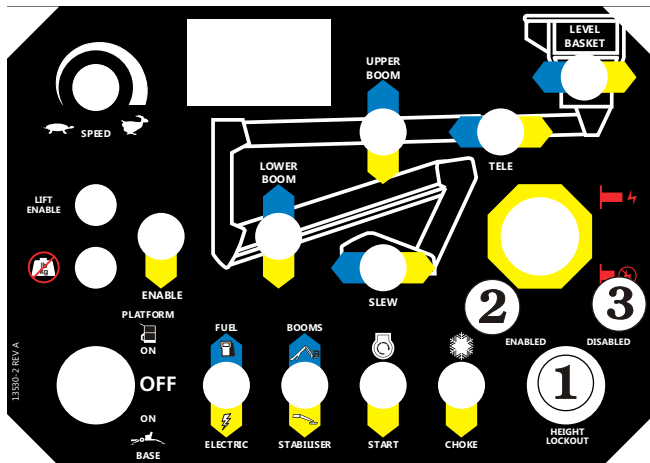

Figure 11.19 - Height Lockout Switch
This switch allows the machine to operate to its full boom height of 11.5m when the switch is in the DISABLED position ③ or to the restricted height of 10.9m when the switch is in the ENABLED position ② see Figure 11.19.